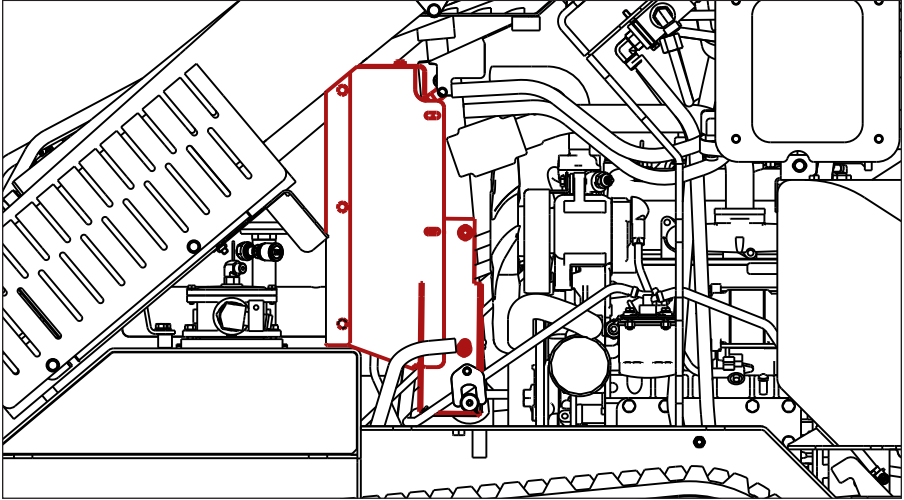

Figure 4-5 Radiator Air Flow Inspection
5. Inspect the radiator to make sure that the air flow is not blocked. The fan located on engine side of radiator unit is a suction fan, which draws air from inside the machine. Check the engine side of the radiator (Figure 4-5) to make sure that debris has not been sucked against the radiator blocking air flow.
**NOTE:** Some items in Figure 4-5 have been removed for clarity.